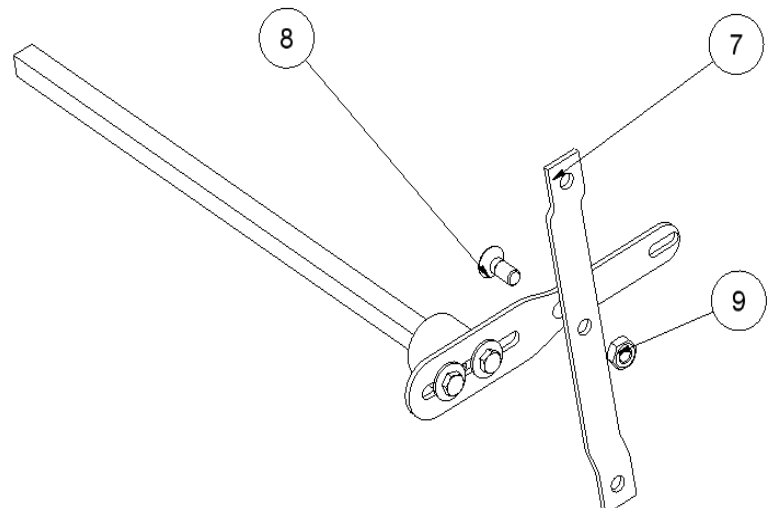

Figure. 2
3. **GOVERNOR LINKAGE PLACING:** One of the screwed arms must be fixed to the governor linkage (7) through the M10 x 25 DIN 7991 screw (8) and the M10 DIN 985 Autoblock nut (9)
– Fig. 2 –.